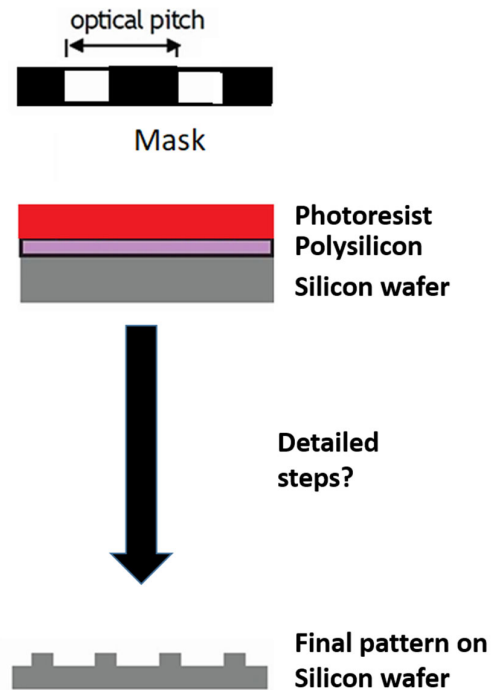

Fig. 1
7. Using appropriate photolithography steps, obtain the final pattern on the Silicon wafer as shown in Fig. 1, below. Sketch the detailed steps followed during the whole photolithography process and name the type of photolithography used.